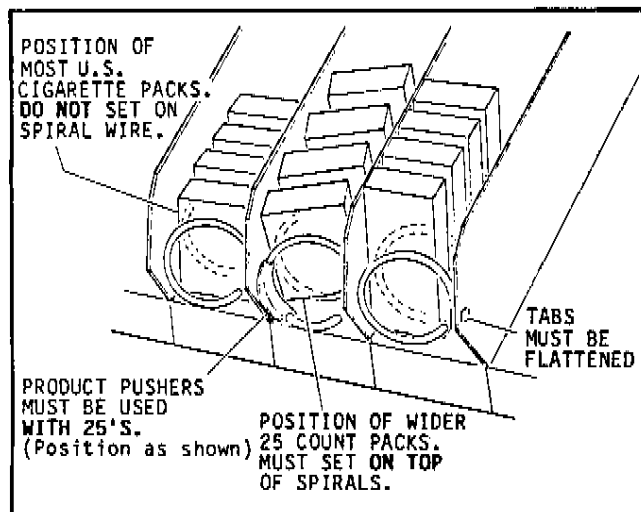

Figure 2-3. Cigarette Loading
1. Loading procedures and spiral count will vary depending on the size of the pack. The following specifications and Figure 2-3 will give aid in loading the spirals.